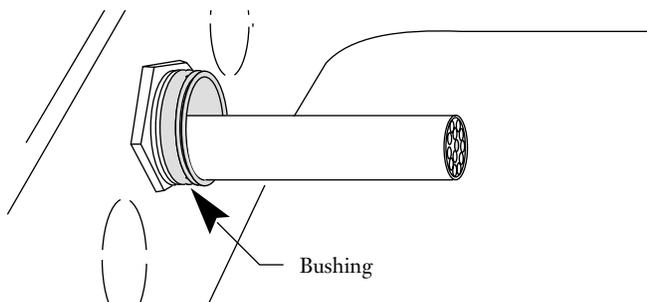

Figure 16
7.17 Eliminate sharp edges, such as entrance points into the conduit or pull boxes, through the use of bushings, box end connectors, or flexduct (Figure 16).